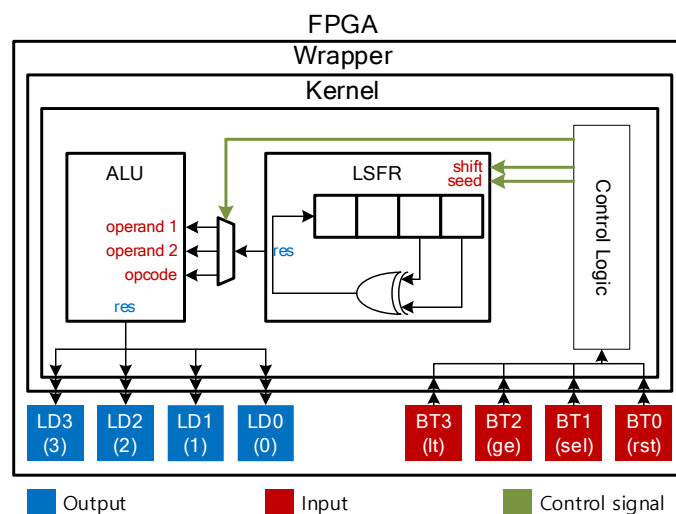

Figure 1. Mental math master
- 1) Design FSM for mental math master, shown in Figure 1. Specifications for mental math master are the followings (there are 2 LSFRs, one for number and one for operand):